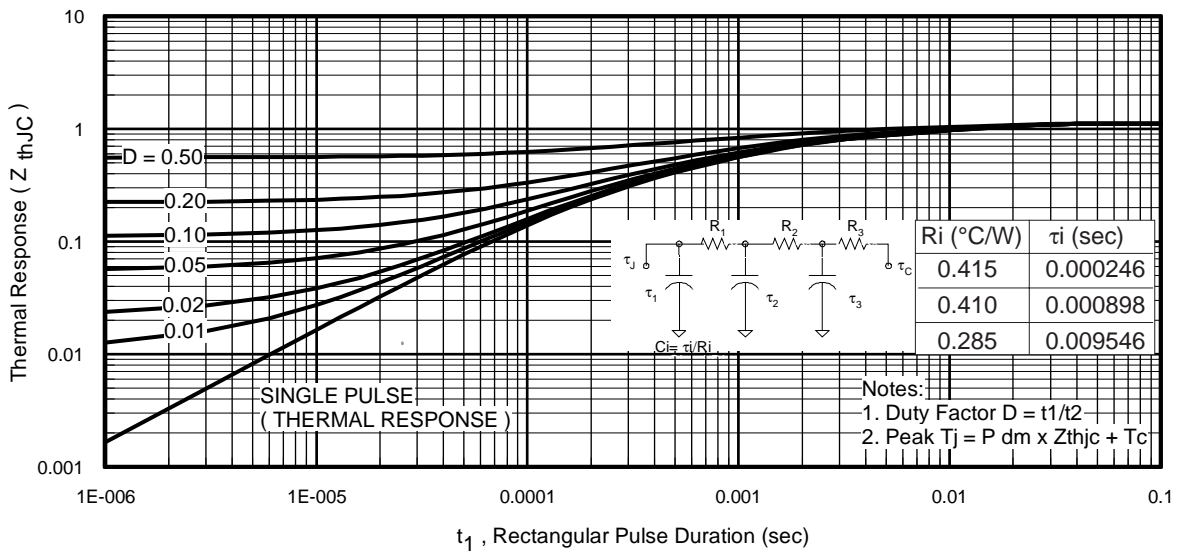
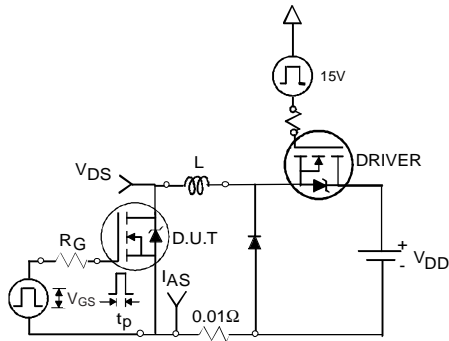

Fig 11. Maximum Effective Transient Thermal Impedance, Junction-to-Case
Fig 12a. Unclamped Inductive Test Circuit
- ① Repetitive rating; pulse width limited by max. junction temperature. (See fig. 11).
- ② Limited by T_{Jmax}, starting T_J = 25°C, L = 0.077mH, R_G = 25Ω, I_{AS} = 51A, V_{GS} = 10V. Part not recommended for use above this value.
- ③ I_{SD} ≤ 51A, di/dt ≤ 260A/μs, V_{DD} ≤ V_{(BR)DSS}, T_J ≤ 175°C.
- ④ Pulse width ≤ 1.0ms; duty cycle ≤ 2%.
- ⑤ C_{oss eff.} is a fixed capacitance that gives the same charging time as C_{oss} while V_{DS} is rising from 0 to 80% V_{DSS}.
- ⑥ Limited by T_{Jmax}, see Fig.12a, 12b, 15, 16 for typical repetitive avalanche performance.
- ⑦ This value determined from sample failure population. 100% tested to this value in production.
- ⑧ This is applied to D²Pak, when mounted on 1" square PCB (FR-4 or G-10 Material). For recommended footprint and soldering techniques refer to application note #AN-994.
3. Equation below based on circuit and waveforms shown in Figures 12a, 12b.
$Z_{thJC}(D, t_{av})$ = Transient thermal resistance, see figure 11)